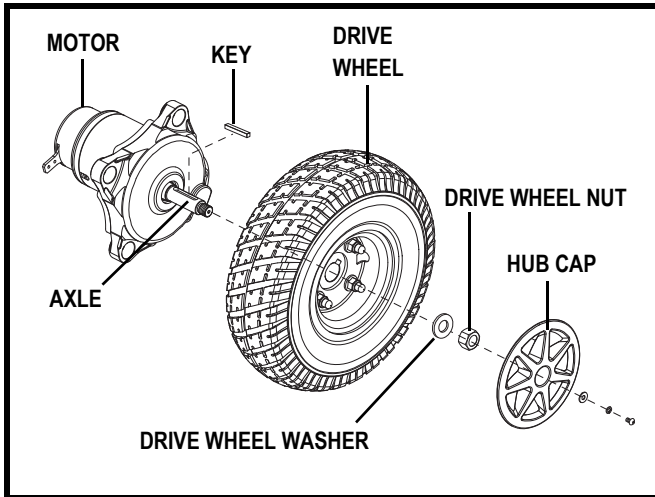

Figure 30. Jazzy Select Series Drive Wheel Removal
5. Remove the hub cap. See figure 30.
6. Remove the drive wheel nut and washer from the axle. See figure 30.
12. Reinstall the drive wheel nut and washer onto the axle and tighten. See figure 30.